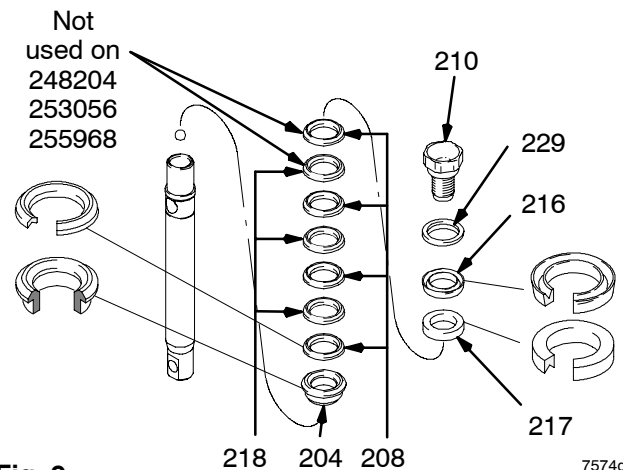

Fig. 9
Fig. 9. Soak all leather packings in SAE 30W oil for 1 hour minimum prior to assembly. Stack male gland (204) on piston rod. Alternately stack UHMWPE (208) and leather (218) packings (note orientation) on piston rod. Install female gland (217). Install piston wiper (216) (note orientation) and backup washer (229) on piston valve (210). The special sealing patch on piston valve threads is good for four repackings. Use Loctite® on piston valve threads after four repackings.